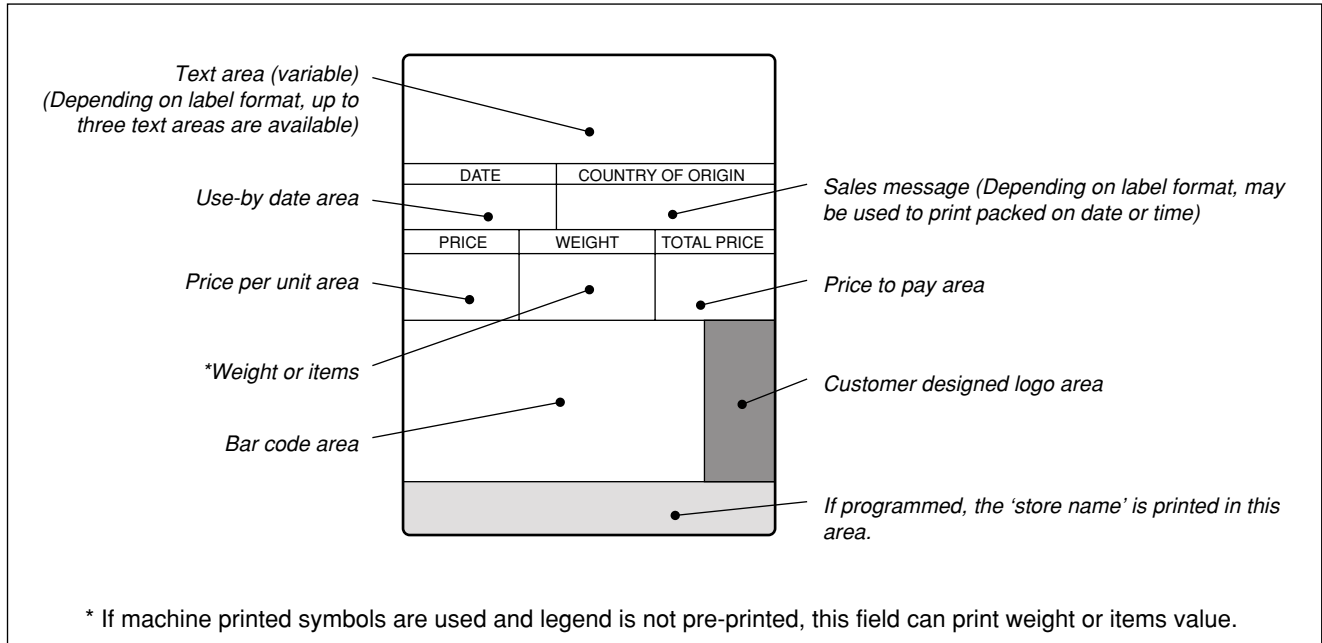

Figure 2.
2. Figures 2 and 3 show the general formatting of labels. The wording of legends printed above which indicate fields in these examples are for guidance only.
- e) Label formats may be used for weighed or non-weighed products. The examples shown in this document have 'WEIGHT' marked in the field used to print either Weight or Items. See fig. 2